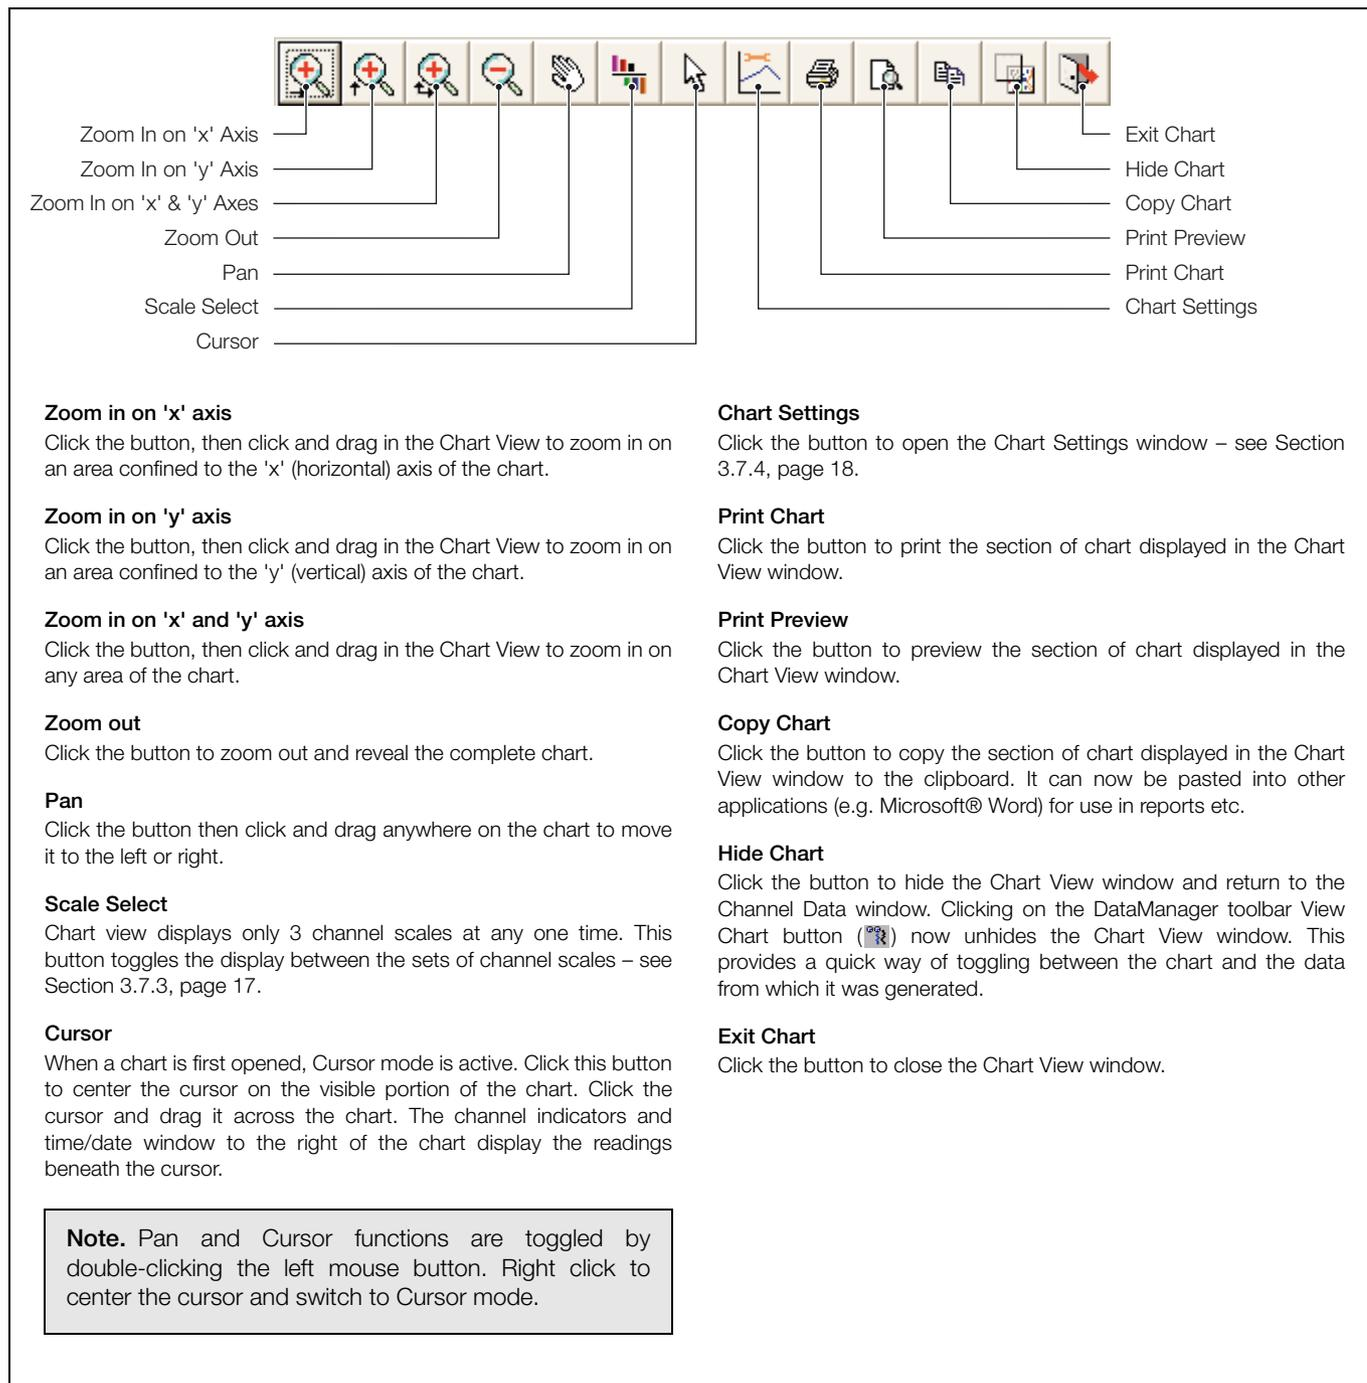

Fig. 3.5 Chart View Toolbar
3.7.1 Chart View Toolbar – Fig. 3.5